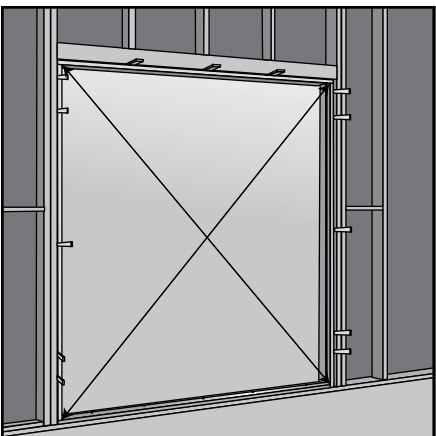

Fig. 23
4. Cross side jambs with string, checking for square, and plumb to ensure no rack. Adjust shims as necessary (**Fig. 23**).